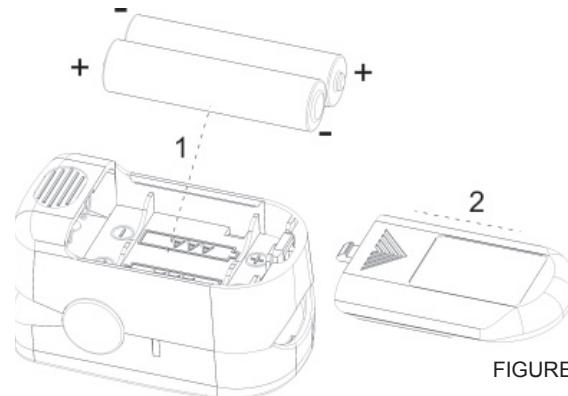

FIGURE 2
2. Prior to initial use, remove battery cover and install 2 AAA batteries as indicated in Figure 2. Note: battery polarity must be correctly installed, otherwise damage to the device is possible.